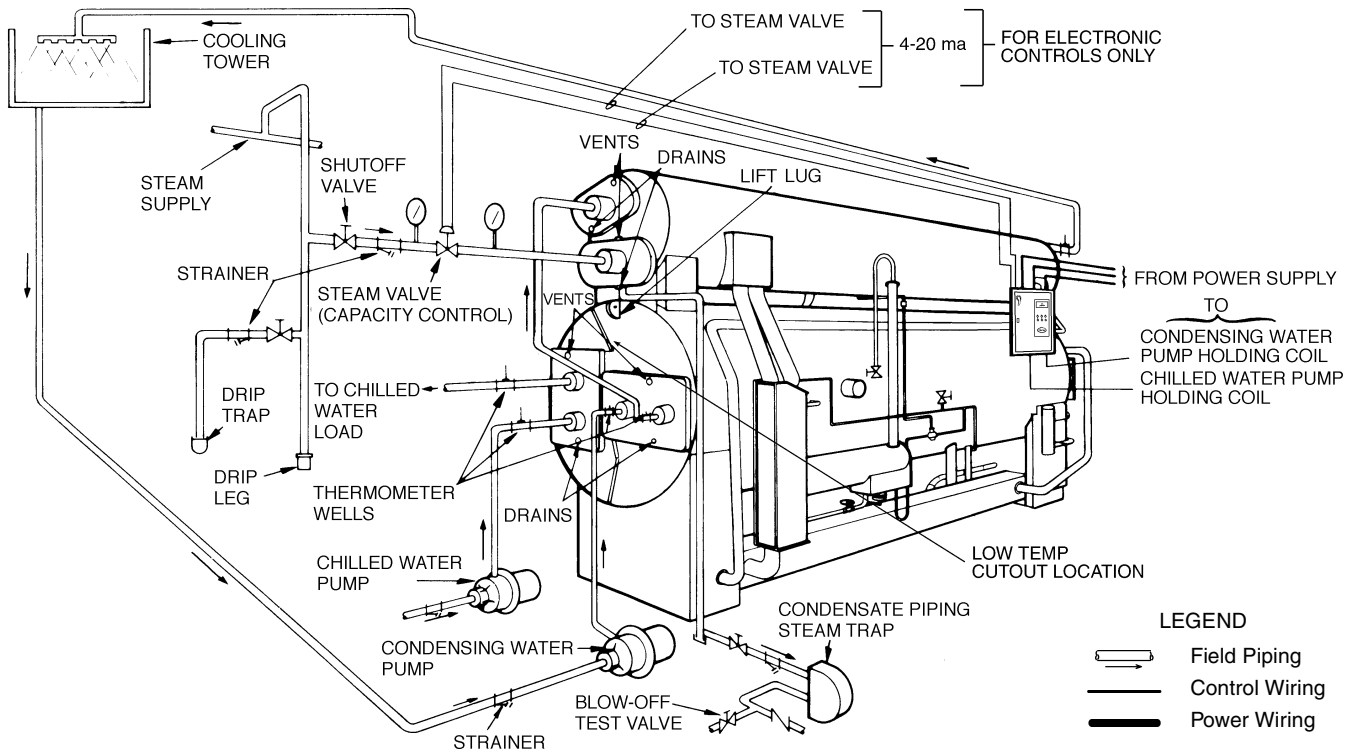

Fig. 6 — Typical Piping and Wiring
Step 3 — Connect Piping — Install piping using job data, piping drawings and procedure outlined below. A typical piping installation is shown in Fig. 6.
- Install water box vent and drain piping in accordance with individual job data. Vent and drain piping shown in Fig. 6 is typical only and may not conform to your arrangement. Air vents should be at all high points in piping to eliminate water hammer.